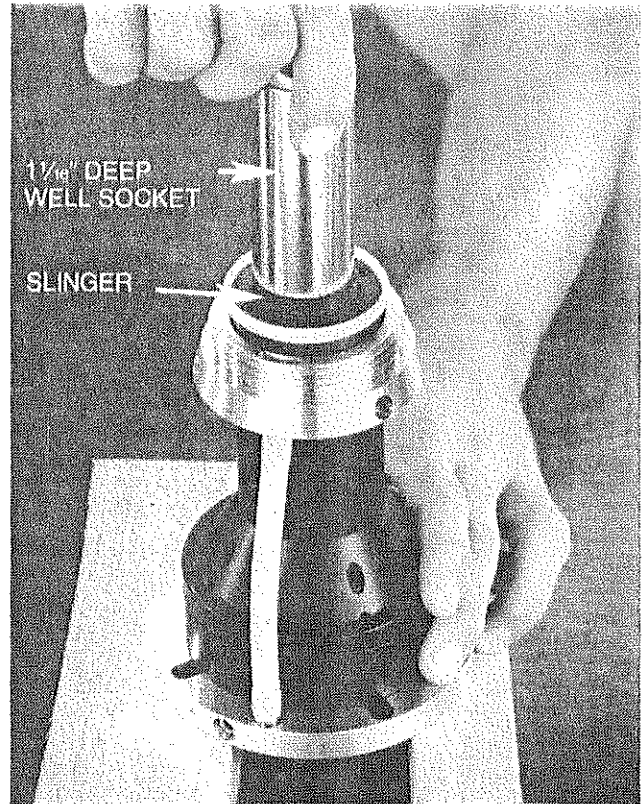

FIG. 37
22. Install new slinger over shaft (Fig. 37). Place turbine facing up on blocks. Using a $1\frac{1}{16}$ " deep well socket, press slinger by hand over shaft until it stops. The slinger should be flush with the wrench flats. Do not over-press as it will cause the slinger to rub against the front cover.